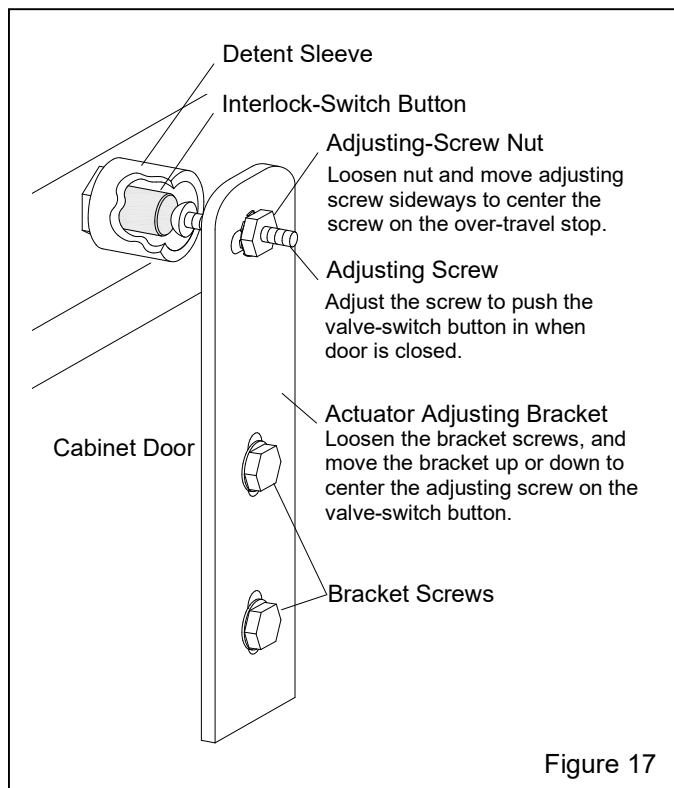

Figure 17
5.6 Door Interlocks – Figure 17